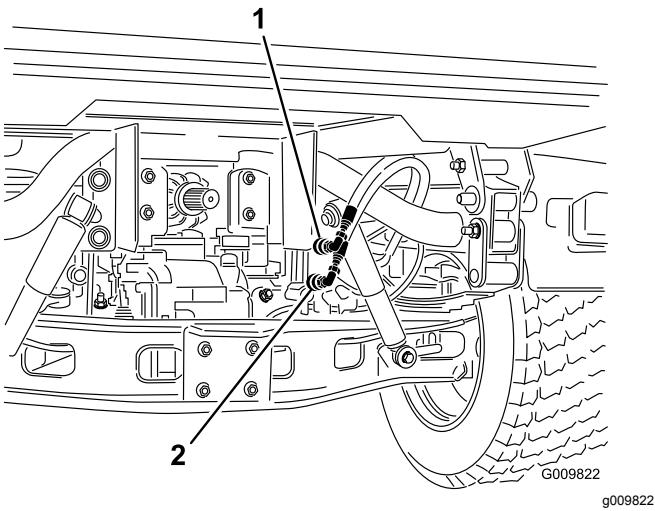

Figure 16
2. On vehicles with serial numbers 240000001 and up, disconnect the 2 lift cylinder hoses from the hoses secured to the coupler bracket (Figure 16). Insert the caps into the cylinder hose quick couplers.